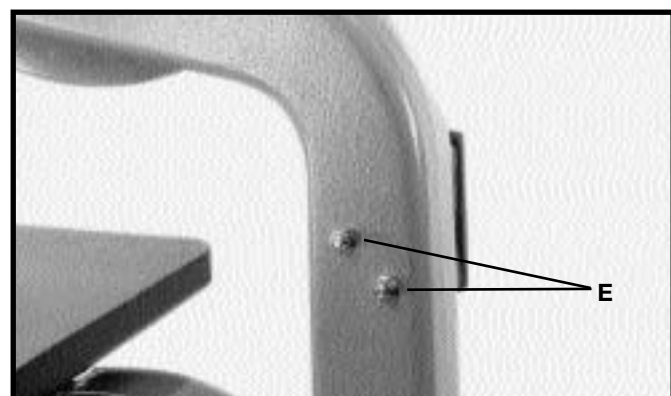

Fig. 14
5. Use the two nuts and lockwashers (E) Fig. 14, removed in STEP 3, to fasten the switch box to the bandsaw arm (Fig. 14).